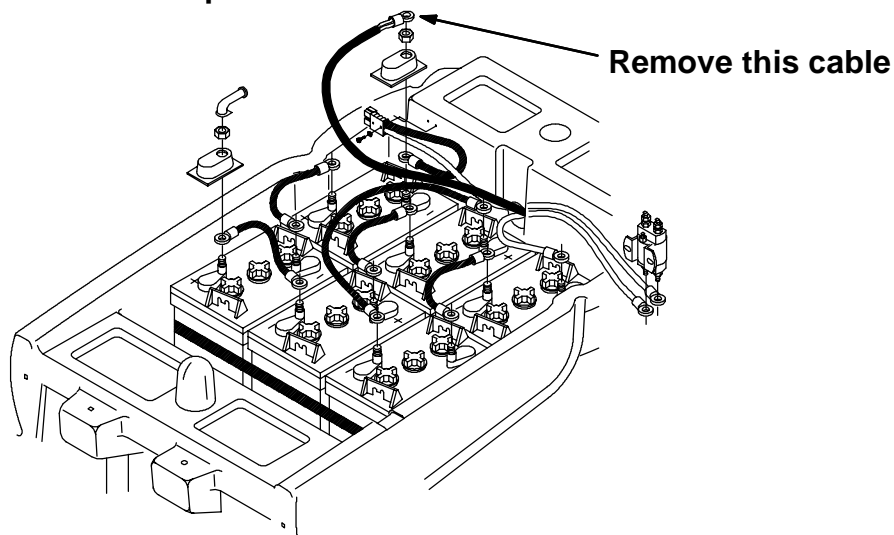

FIG. 1 - Battery Cable Disconnect
(Refer to FIG. 1 and 2)
3. Disconnect the negative battery cable from the battery nearest the back of the machine before servicing any electrical components. (Refer to FIG. 1)
(Refer to FIG. 1, 2 and 3)
7. Reconnect the battery cable to the rear battery. (Refer to FIG. 1)